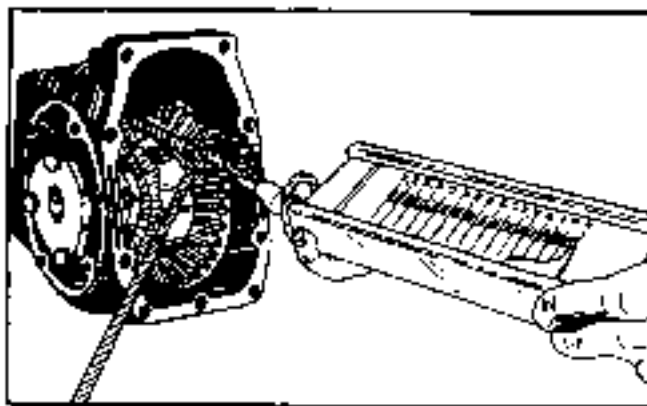

FIGURE 4.
- a. Tapered bearing preload, 4 to 14 lbs. on pull scale (Figure 4)